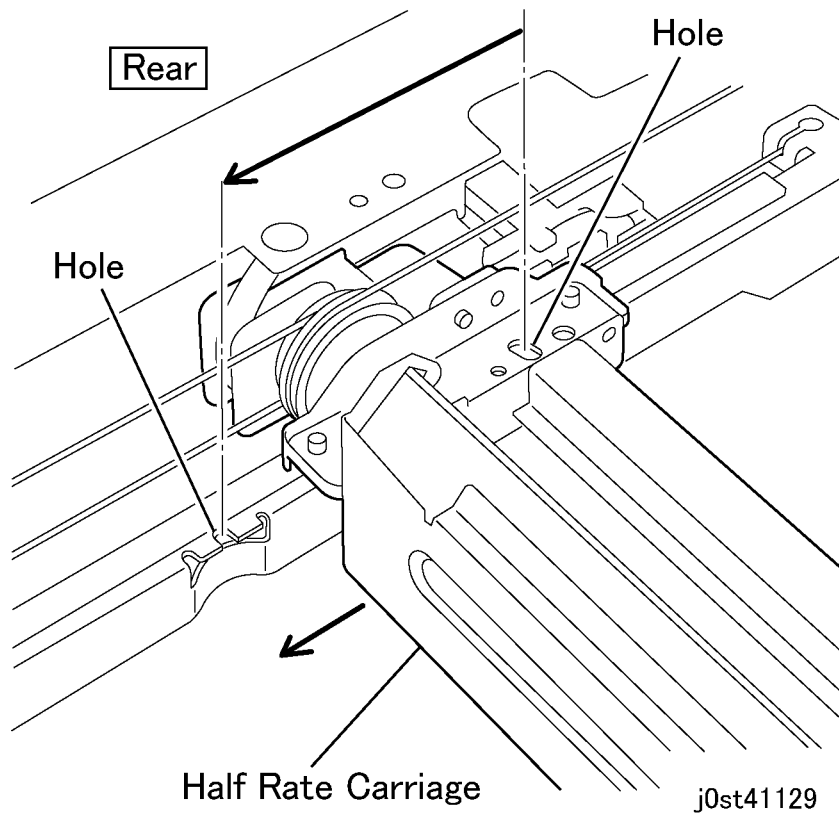

Figure 2 Position Adjustment of Half Rate Carriage 1/3
5. Align the tool hole in the Half Rate Carriage with the tool hole of the rail (Front/Rear). (Figure 2)